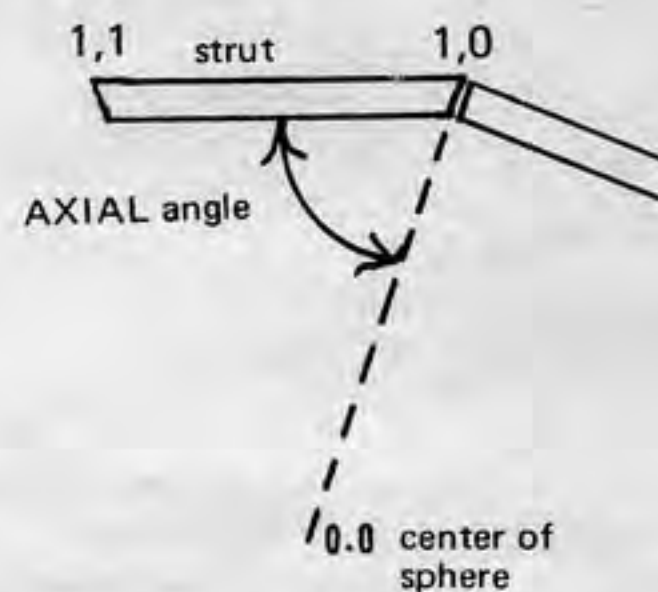

Fig. 2
- **AXIAL 0,0 1,0 1,1** refers to the angle between a line drawn from the center of the sphere (0,0) and vertex 1,0, and the strut 1,0 1,1 (Fig. 2). It is the angle that a strut meets its hub from the side view. Note that it is *not* the entire included angle under a hub, but only to the line from the hub to the sphere center. The value is DEGREES. 90° minus the axial angle equals angle you cut or bend struts.